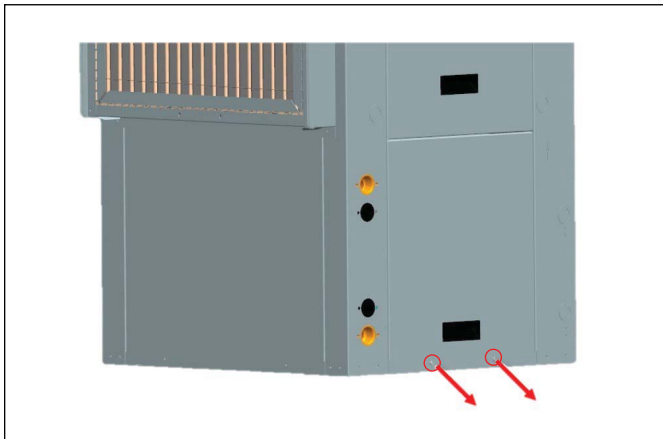

Figure 4
4. Remove the bottom panel first by unscrewing the 2 fasteners from the bottom panel (figure 4).